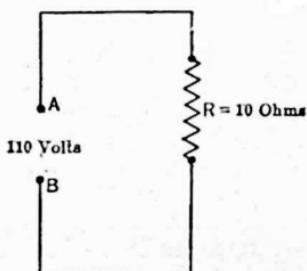

FIG. 24. A coil of 10 ohms across a 110-volt circuit.
15. Series Circuit. Resistance. In Fig. 24, a resistance coil R of 10 ohms is connected across the terminals of a 110-volt line. By Ohm's Law the current must equal $\frac{\text{volts}}{\text{ohms}} = \frac{110}{10} = 11$ amperes.